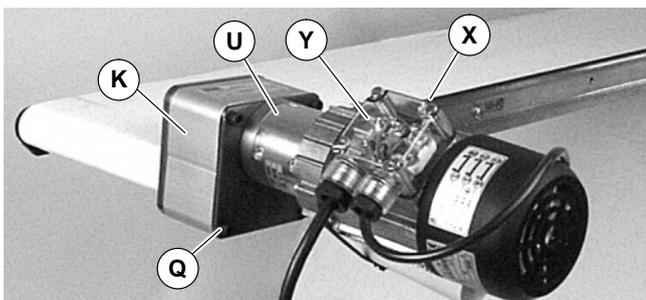

Figure 15
- Loosen terminal box screws (X of Figure 15) and remove cover (Y).
- Remove four (4) screws (Q of Figure 15). Remove gearmotor (U) and top cover (K).